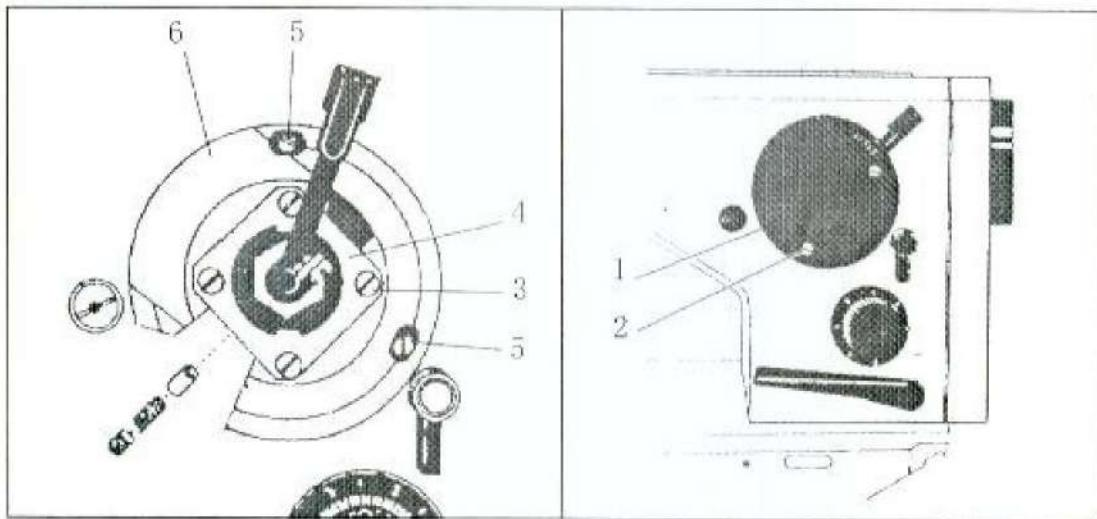

Fig.19
- 2) The needle punches transversely into the center of the needle plate slot position adjustment (Fig.19)
28. The needle base point offset adjustment(Fig.19)